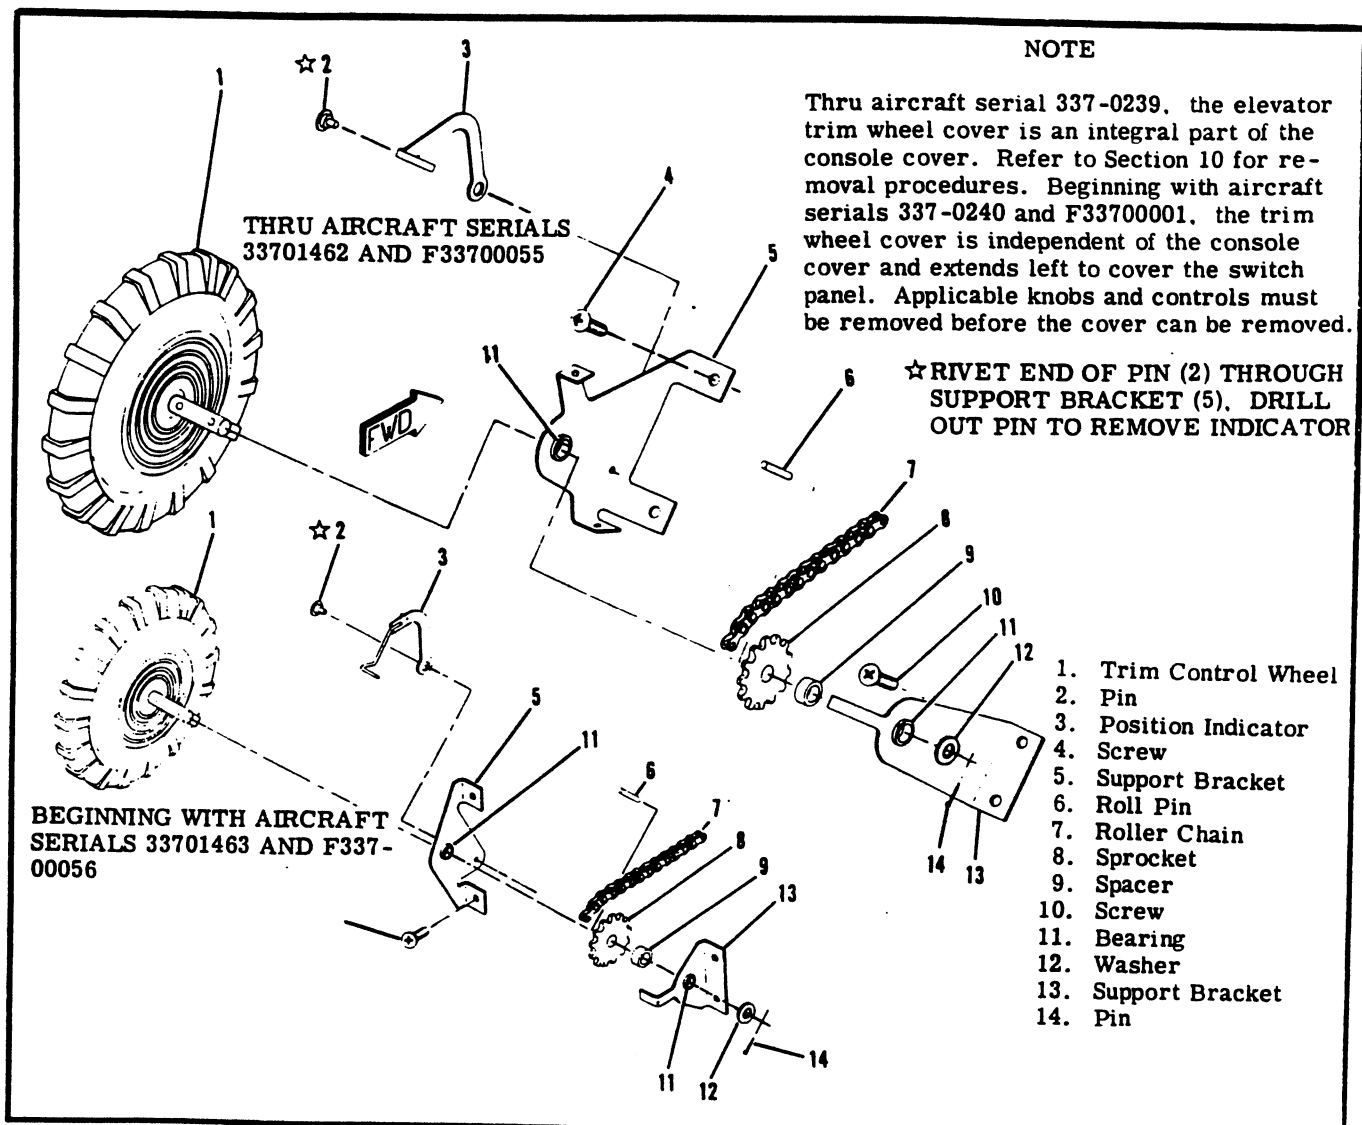

Figure 8-8. Elevator Trim Control Wheel Installation
8-22. TRIM TAB CONTROL WHEEL. (Refer to figure 8-8.)
- (Refer to figure 8-8.) Rotate trim wheel (1) to the mid-range position. Check that roller chain (7) ends extend the same distance from sprocket (8). If necessary, disengage roller chain and re-engage chain on sprocket.